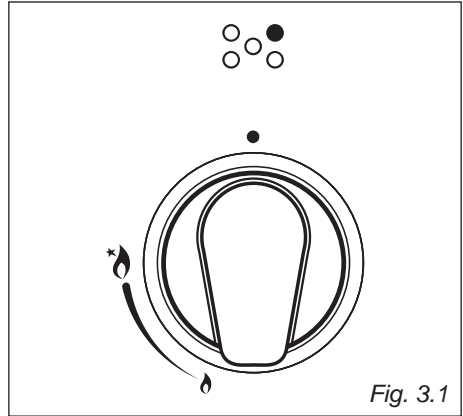
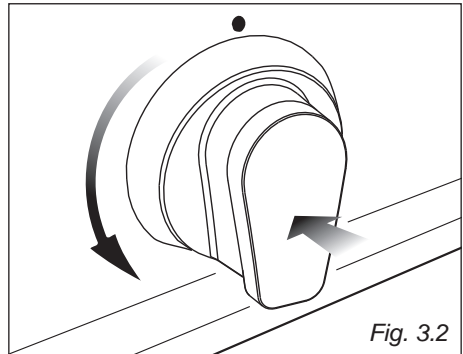

Fig. 3.1
Fig. 3.2
- Unhook the terminal board cover by inserting a screwdriver into the two hooks “A” (fig. 3.1).
- Unscrew the screw “D” and open completely the cable clamp “E” (fig. 3.2).
- Position the U bolts “F” onto terminal board “G” (fig. 3.2) according to the diagrams in fig. 3.3.
Gas flow to the burners is adjusted by turning the knobs (illustrated in fig. 3.1) which control the safety valves.
1. Press in the corresponding knob and turn counter-clockwise (fig. 3.2) to the full flame position marked by the  symbol (fig. 3.1); hold the knob in until the flame has been lit.